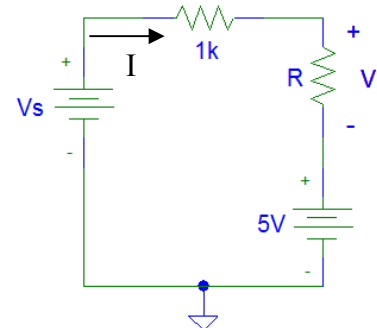

Figure 5 – Modification of Figure 4.
- Insert a DC voltage source of ~~2-V~~ 5 V in series with R, as shown in Fig. 5. Place the voltmeter across both R and the 2 V source and repeat steps 2. and 3, i.e., repeat steps 2 and 3 but this time measure the current through R and the ~~2-V~~ 5-V source and the voltage across R AND the ~~2-V~~ 5-V source. Comment on the meaning of the term “resistance” by comparing the two graphs.